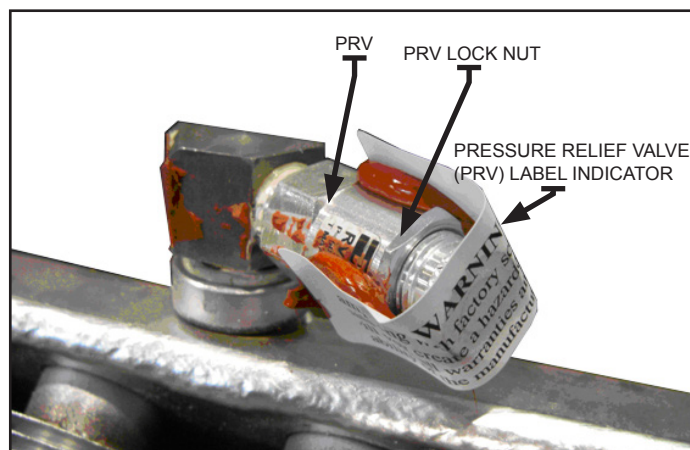

FIGURE 1
| <p>1. CLEAN</p> <ul style="list-style-type: none"><li><input type="checkbox"/> Finned Tubes</li><li><input type="checkbox"/> Fan</li><li><input type="checkbox"/> Fan Guard</li><li><input type="checkbox"/> Motor</li><li><input type="checkbox"/> Louvers</li></ul> | <p>2. CHECK</p> <ul style="list-style-type: none"><li><input type="checkbox"/> Motor for smooth, quiet operation</li><li><input type="checkbox"/> Louvers for proper angle and tightness</li><li><input type="checkbox"/> All explosion-proof covers for tightness</li><li><input type="checkbox"/> Pressure relief device for signs of leakage. See Figure 1 and refer to the ANNUAL Section (see below) item 2 for further instructions</li></ul> |